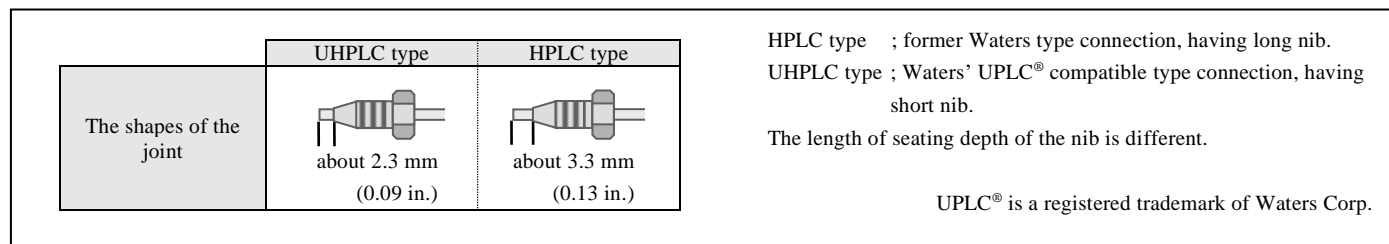

Figure 3. Difference between HPLC type and UHPLC type fitting.
4. The connection type of 1.8 μm particles packed column is the former Waters' UPLC compatible type (UHPLC type), and of 2.5 μm particles packed one is the Waters type (HPLC type). please use suitable or movable fittings to connect each column. [Fig.3]